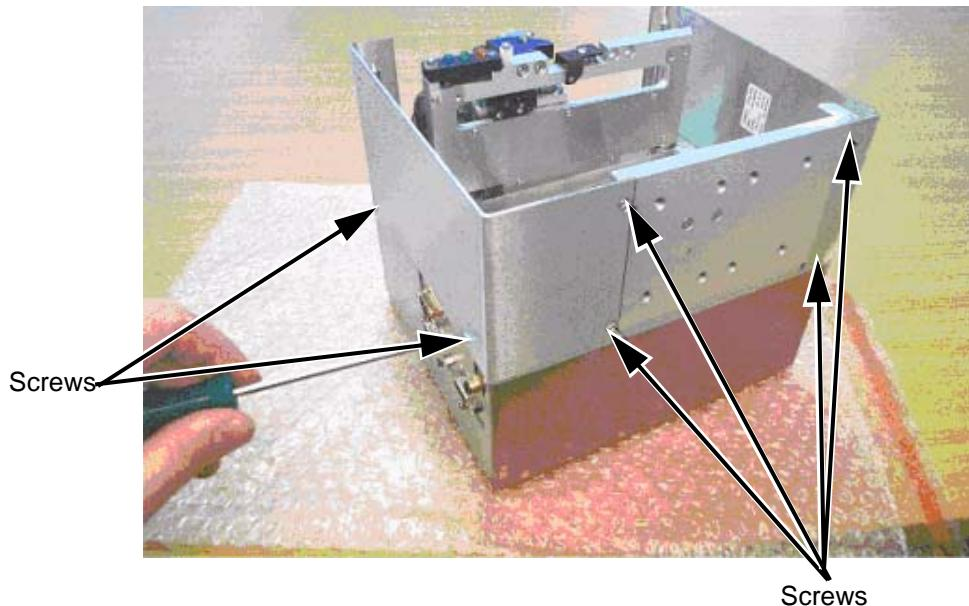

Figure 5-67: Side Cover Removal
- 1 Remove the eight screws, (six shown in Figure 5-67 and two hidden), and remove the side covers.